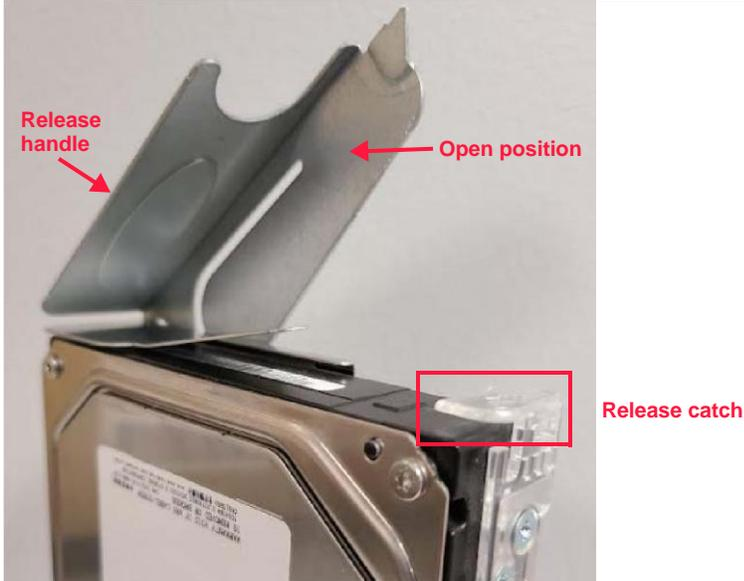

Figure 3.11 Drive carrier release
2. Ensure the drive carrier release handle is in the open position as shown in Figure 3.11. If the release handle is closed, press the release catch in the